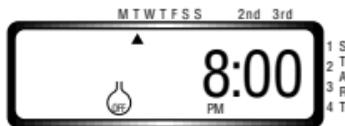

Figure 12
- Press **OFF**. The timer will remain programmed but will not start watering. [See Figure 12]